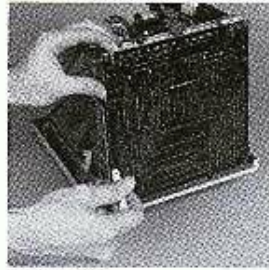

Figure 3-10
- b. Place one side of the main logic board in the guide rail and slide it into the Macintosh. Using a flat-bladed screwdriver, pry the other side of the main logic board into the guide rail. See Figure 3-10.